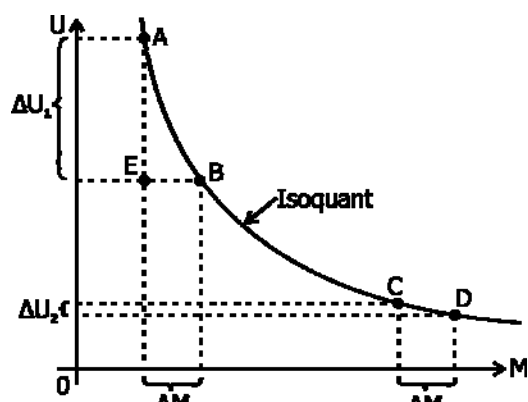

Figure 3.1 Properties of an Isoquant
- Isoquants are convex to the origin: Inputs must replace each other for output to remain at the level. As such the isoquant is convex to the origin because the rate at which one input substitutes the other becomes lower as the substitute input is used in larger quantities. In Figure 3.1, point A shows that we are using lower levels of input M. At these lower levels of the input, it can be seen that ΔM replaces a big ΔU_1 in moving from A to B. But as more of input M is used, it becomes less capable of replacing input U such that the same ΔM can now only replace a very small ΔU_2 in moving from C to D.
MRS and MPP: There is a relationship between MRS and MPP. With reference to Figure 3.1, it can be observed that moving from A to B can be broken into two: first, the movement from A to E, and second, the movement from E to B. From A to E, ΔU units of U are lost. Each unit's contribution to output is equal to that unit's MPP. As such, the units of output lost in moving from A to E is given as $\Delta U * MPP_U$. The second movement from E to B shows that ΔM units of M are added. With each unit of M contributing MPP_M to the output, $\Delta M * MPP_M$ units of output will be added in moving from E to B. Overall, these movements do not affect output: moving from A to E, and then E to B still leaves us on the same isoquant. Thus the output lost by moving from A to E is equal to the quantity gained in moving from E to B, i.e. $\Delta U * MPP_U = \Delta M * MPP_M$. This equation can be rearranged to become: